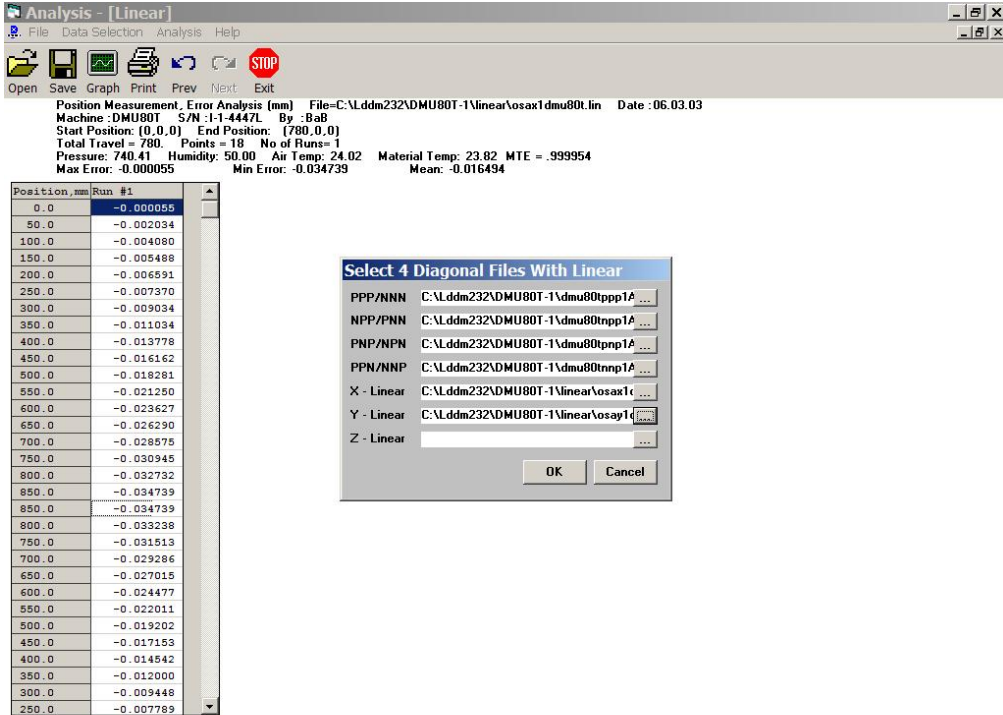

FIG. 9-5 SEQUENTIAL DIAGONAL DATA ANALYSIS SCREEN
- 2) Under the **Data Selection** heading, you can only choose **Displacement** when looking at a linear (**.LIN**) file, or “4 diagonals”. After click on the “4 diagonals with Linear”, a screen “Select 4 Diagonal Files with Linear” will popup (see FIG. 9-5). Enter the 4 diagonal files. There are 4 types of diagonal files, ppp/nnn, npp/pnn, pnp/npn and ppn/nnp. The file can not be entered by type the filename. Click on the right hand button to enter the correct type of diagonal file to the corresponding line. The program will process the data with at least one diagonal file and assume all the other diagonals are zeros. For a correct analysis, all 4 diagonal files must be entered. For a non-isotropic machine, sometimes it is necessary to input 2 linear displacement files with the same travel distances.